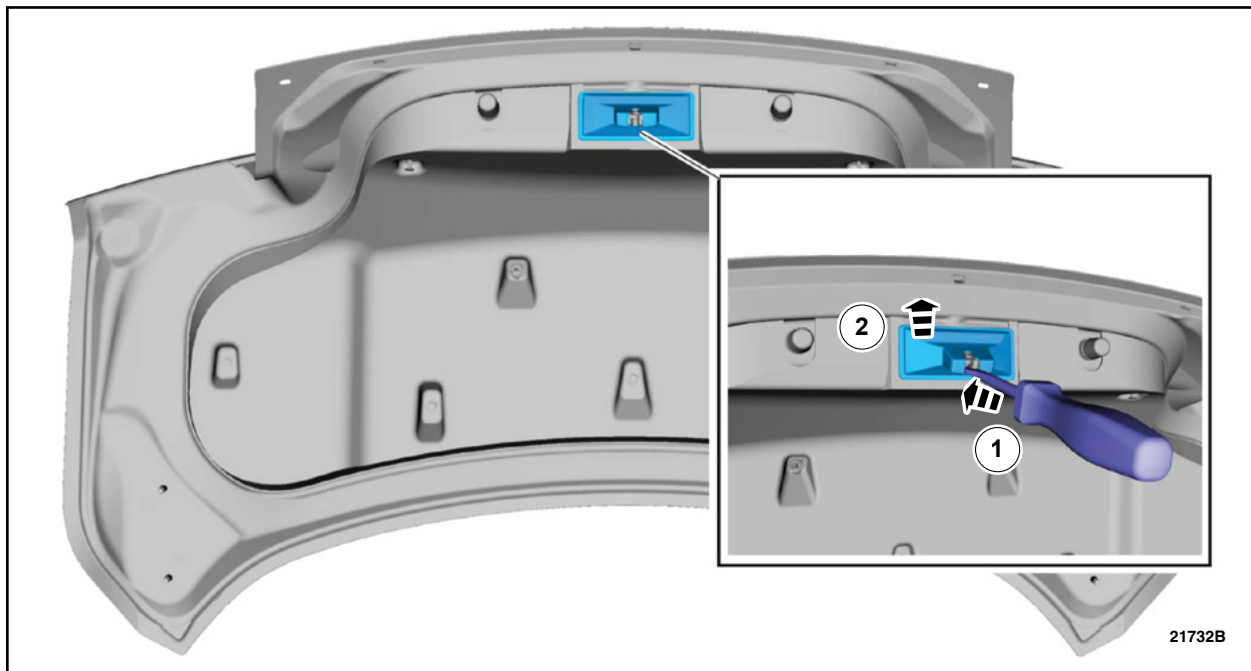

FIGURE 9
19. Remove the luggage compartment lid latch cover. See Figure 9.